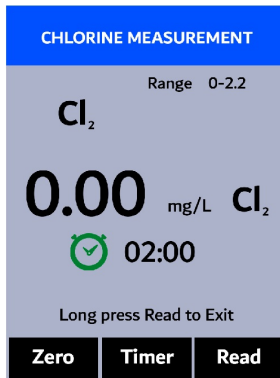

Figure 38.
3. Press **OK** (  ) to launch the **CHLORINE MEASUREMENT** screen (Figure 38).